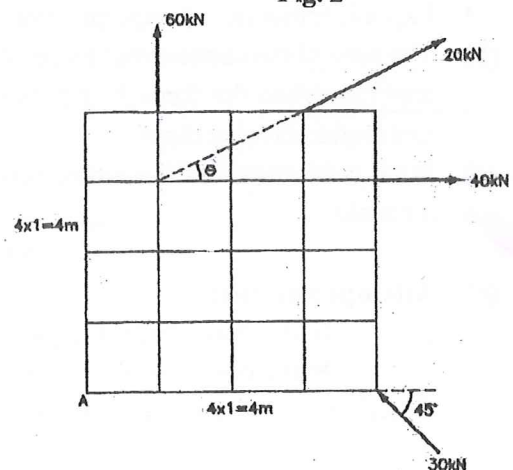

Fig. 4
- (c) Find resultant of the force system shown in Fig. 4 with respect to point A. 05